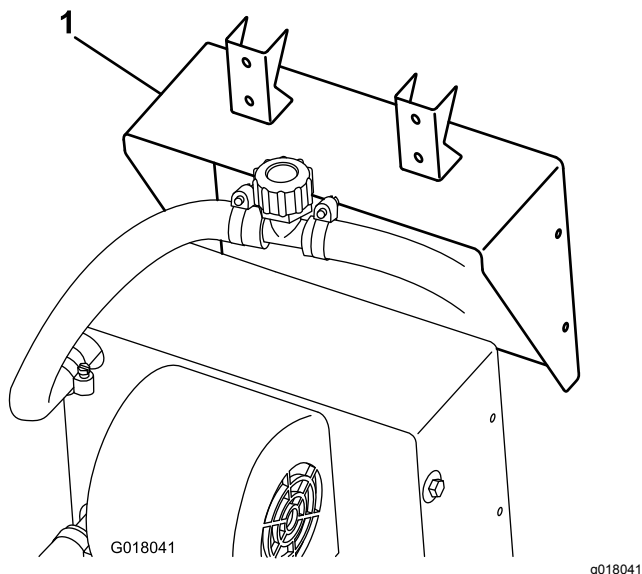

Figure 21
2. Attach the heater bracket to the heater using the screws supplied with the heater (Figure 21).